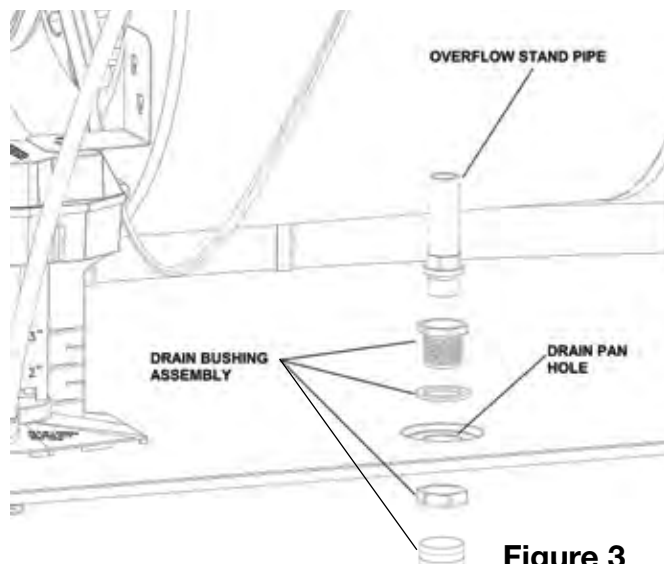

Figure 3
Next install the overflow stand pipe and drain bushing. Attach the stand pipe, drain bushing, washer and brass cap in the hole in the drain pan in the order shown in **figure 3**. **NOTE:** Verify that the washer is correctly in place before use.
- Remove drain bushing assembly as shown in **Figure 3**